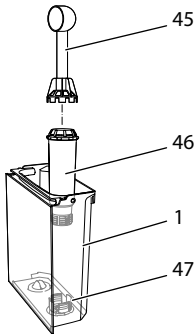

Fig. 25: Screwing/Unscrewing the water filter
- Remove the water filter when the appliance requests you to do so (see Fig. 25 *Screwing/Unscrewing the water filter* on page 97).